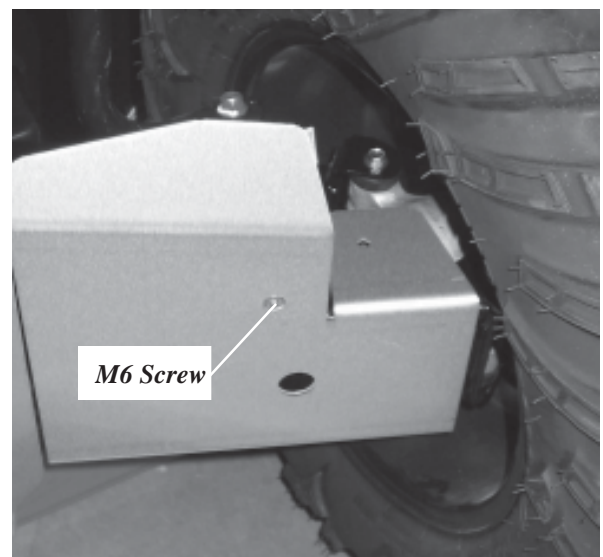

Figure 3
3. Install M6 screw (B5) through guard and bracket and fasten with washer (B1) and lock nut (B2). Do not tighten. **(Figure 3 & 4)**